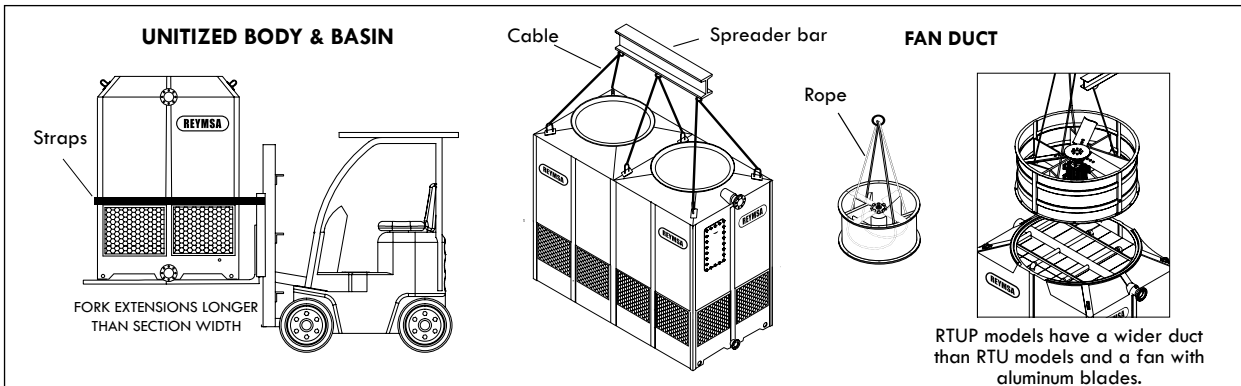

Figure A-42: Four Fan Tower fork and crane lifting
- B. After verifying the equipment is received in proper condition, proceed to unload it piece by piece, with a crane or forklift of the appropriate capacity (see Figure A-42 for reference). If you unload with a forklift, use fork extensions of the proper pallet length according to the width of your model.
- D. For crane lifting, it’s recommended to use a minimum lifting angle of 60° between the strap and the horizontal. The Body section has U-bolts for lifting, one on each corner. Place the straps through the u-bolts (as shown in Figure A-42) and use a spreader bar to avoid damage on the upper edge of the Tower. Don’t balance until tensing the straps.